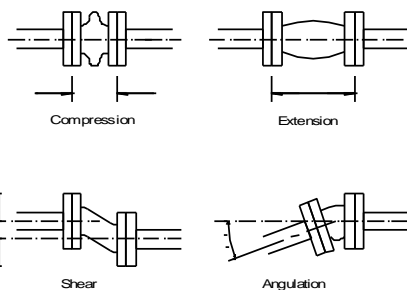

Fig. 1.3 Flexible pipework connections
- 1.3.4.6 Connect site pipework to suction and discharge manifolds, ensuring adequate support is provided to avoid imposing pipe strain on manifolds. The connecting pipework should not be smaller than that of the pumpset. Where flexible pipe connections are fitted, ensure that the correct distance is allowed between flanges, that the pipework is also aligned axially, and no strain is imposed by the site pipework. (see fig.1.3)**